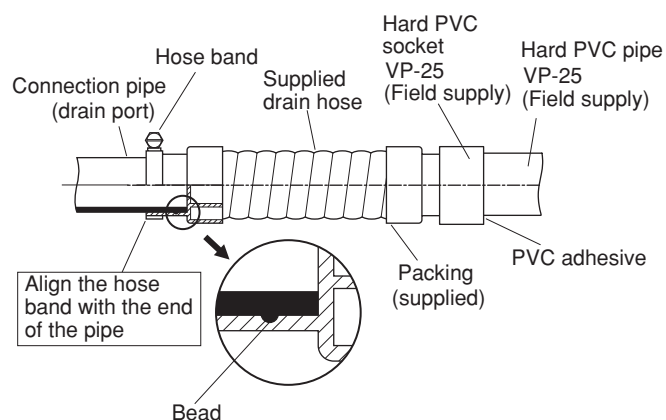

Fig. 3-53
The PVC pipe must be purchased separately. The unit's transparent drain port allows you to check drainage. (Fig. 3-53)
- Insert the drain pipe until it contacts the socket, as shown in Fig. 3-53, then secure it tightly with the hose band.
- Align the hose bands with the end of the hose. Tighten the hose band firmly. Please make sure that the bead is not covered by the hose band. (Fig. 3-53)
Tighten the hose clamps so their locking nuts face upward. (Fig. 3-53)